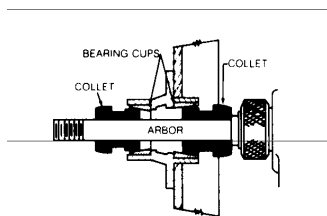

Figure 11
C. Install collet for inner bearing race on arbor. See Figure 11. Mount the drum (to be Machined), the collet for outer bearing race, and necessary spacers to fill arbor past mounting surface. Install arbor nut and tighten by hand. This will center the drum on the collets. Using 90578 Spanner Wrench, tighten arbor nut snugly. If drum touches housing, place a spacer on arbor between inner collet and arbor shoulder.